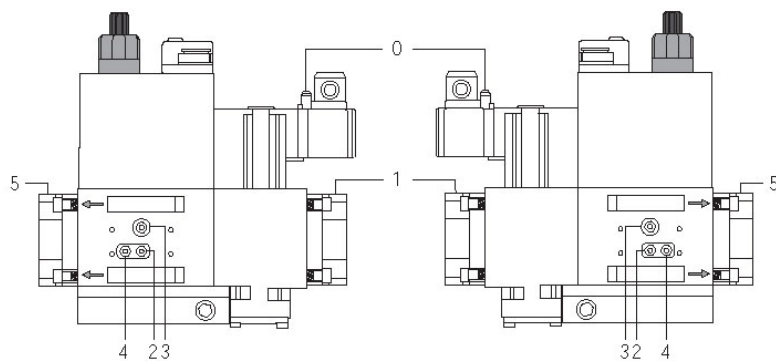
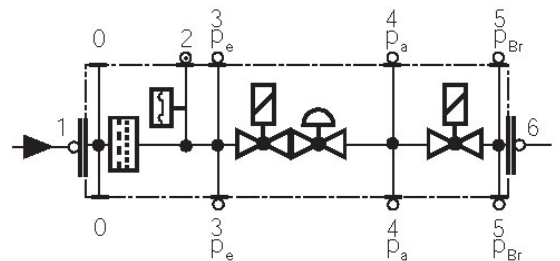

Fig. 38
Fig. 39
- Change the filter if the pressure difference between pressure connection 1 and 2 (Fig. 38-Fig. 39) $\Delta p > 10$ mbar.
- Change the filter if the pressure difference between pressure connection 1 and 2 (Fig. 38-Fig. 39) is twice as high compared to the last check.